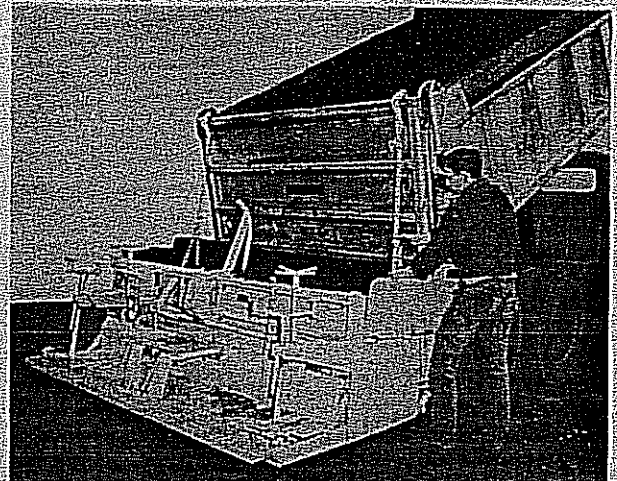

Fig. E-2
5. Attach the two short carry chains to the hopper bridle chains three links forward of the center of the hopper bridle chains. (See Figure E-2)